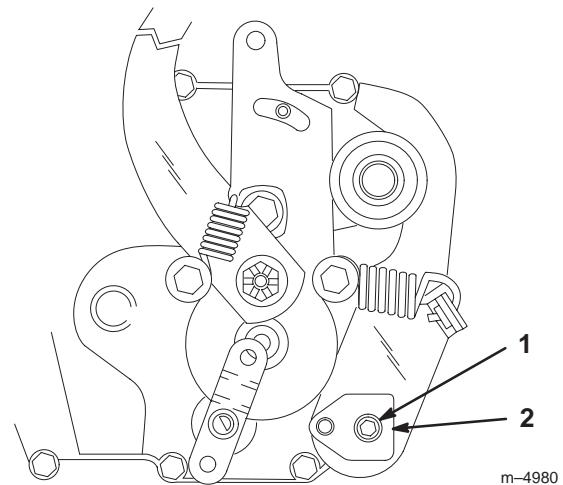

Figure 4
Note: To gain access to the adjusting puck (Fig. 4), it may be necessary to remove the tire.
- Loosen the adjusting puck screw (Fig. 4).
- Rotate the adjusting puck (Fig. 4) in both directions until you find the midpoint where the axle no longer rotates forward or reverse.